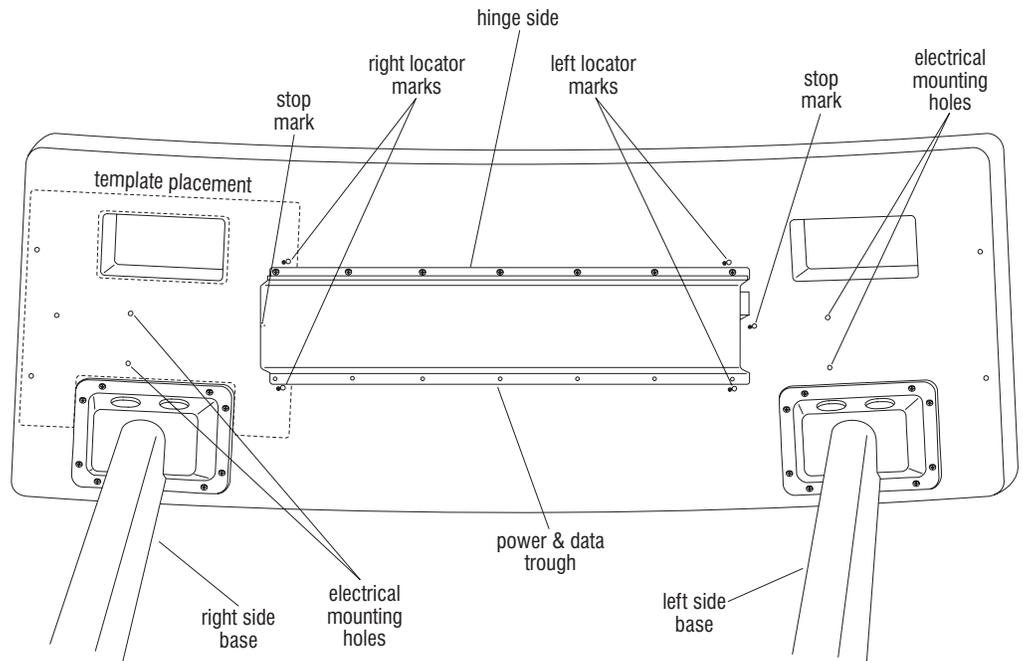

Figure 7
21. Position a power & data trough under the worksurface between two bases. Orient the hinge side of the trough to face the front of the worksurface (front of the room). At the right side base (looking up from underneath at the front of the worksurface) notice the locator and stop marks which were drawn through the template in step 20. The left three marks will guide where the power & data trough must be positioned at this right base. The trough is to be positioned between two left locator marks, but not to extend beyond the third “stop mark” (Figure 7). Looking now to the left side base, notice the right locator marks. The trough is to be positioned between these marks while following the guidelines described above for the right side of the trough at the right column with the left locator and stop marks (Figure 7).